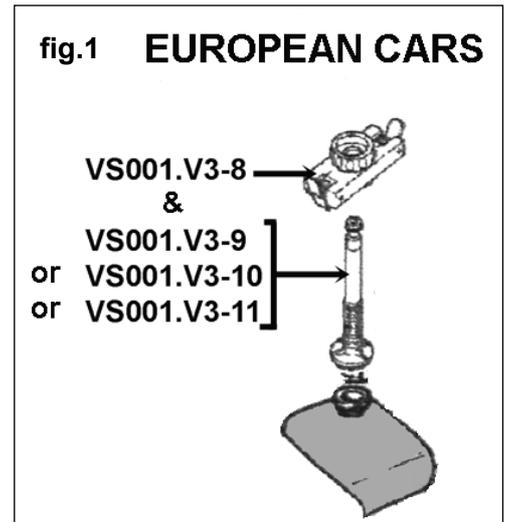

fig.1 EUROPEAN CARS
- 3.1.4 **Expansion tank (European). See fig.1.**